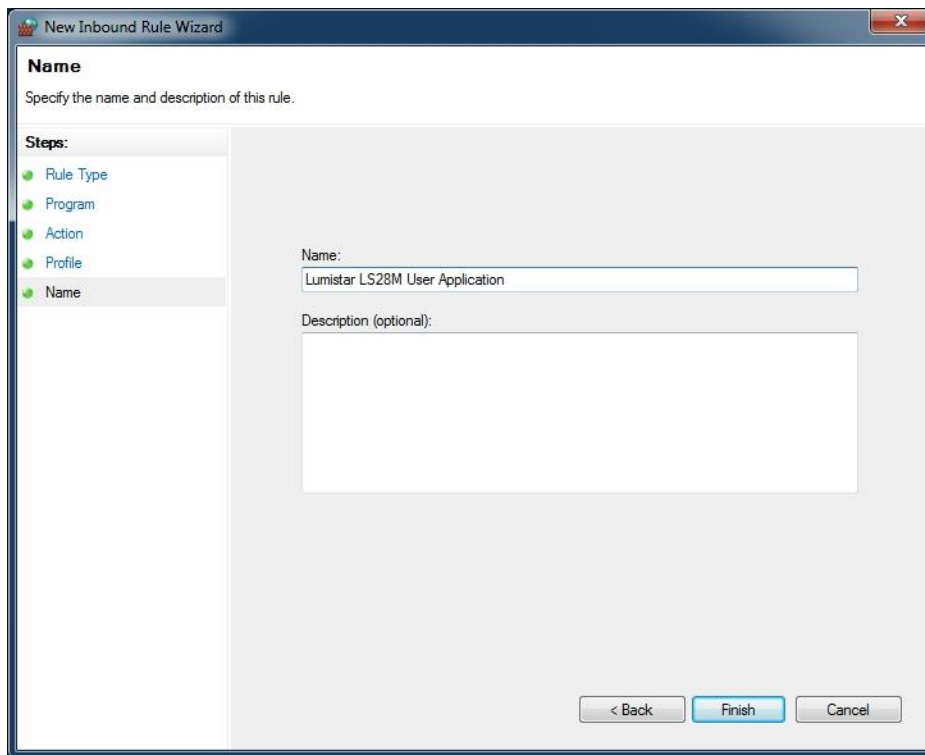

Figure 2-15 Windows Firewall – Advanced Security New Rule: Name
Step 10: Finally, name the rule for easy identification and select the FINISH button as shown in Figure 2-15.